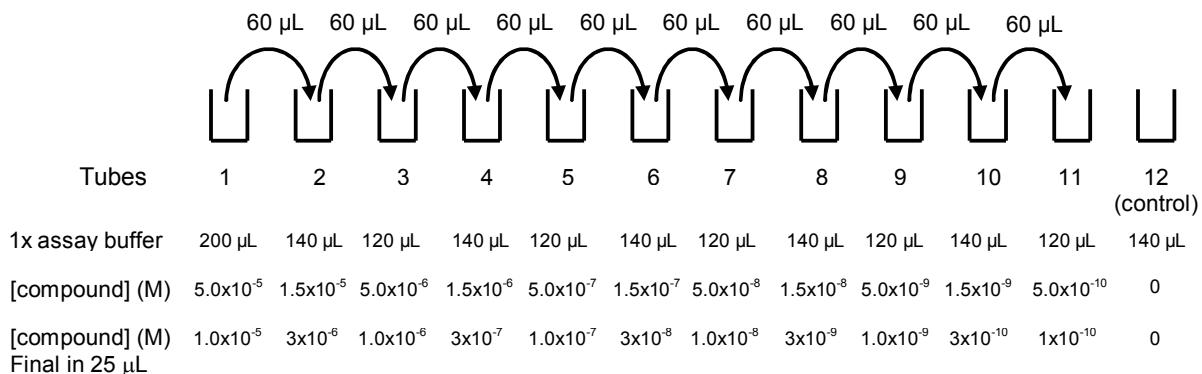

Figure 6. Serial Compound Dilutions in Assay Buffer.
- Serially dilute compounds to yield concentrations ranging from 5×10^{-5} M (50 μ M) to 5×10^{-10} M (500 pM) using halflog dilutions, as illustrated in Figure 6. Include a buffer control (buffer only; identified as tube #12).
- Serially dilute compounds to yield concentrations ranging from 5×10^{-5} M (50 μ M) to 5×10^{-10} M (500 pM) using halflog dilutions, as illustrated in Figure 6. Include a buffer control (buffer only; identified as tube #12). If desired, a control curve can also be generated using D-biotin (Fig. 8).